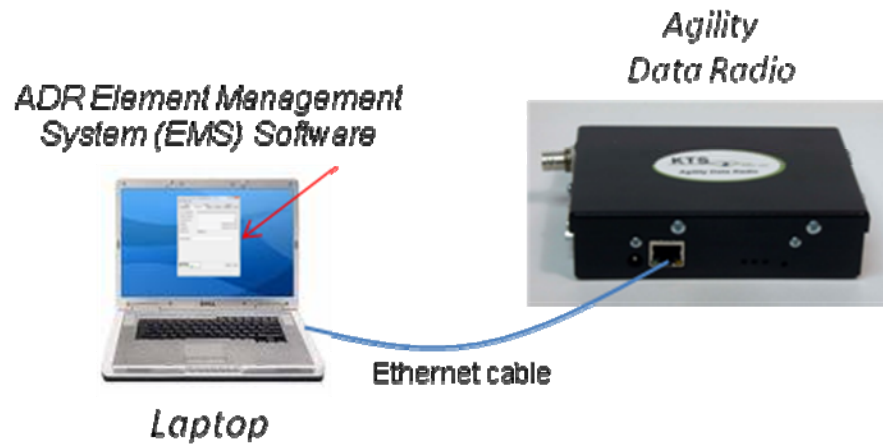

Figure 2: AWR/EMS Connection
5. Connect a laptop to the AWR as shown in the Figure 2. Double-click on the icon below to start the EMS software installation process.